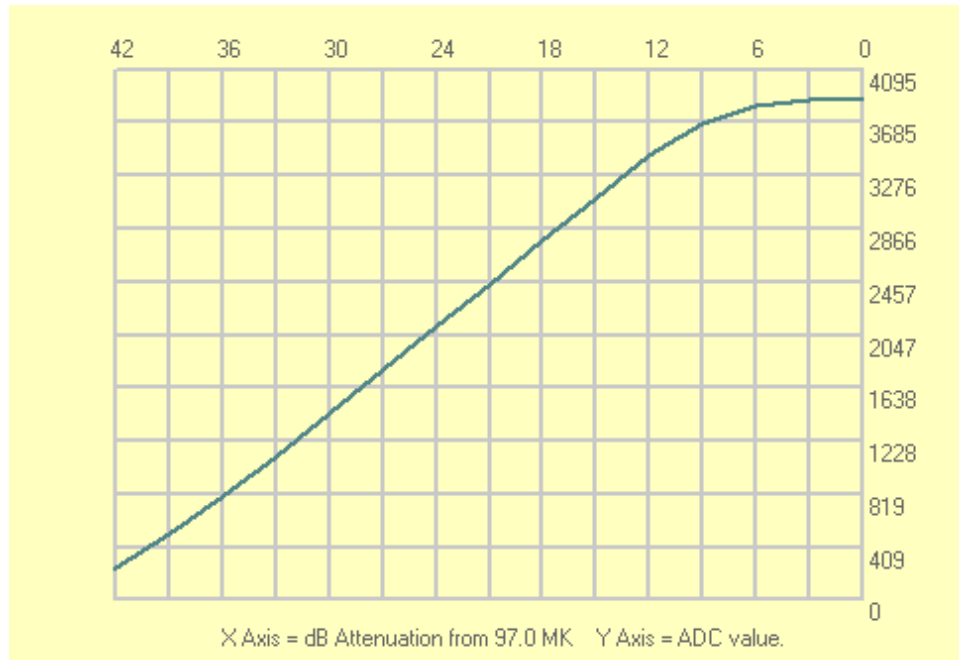

Figure 3. Dynamic range plot of a spectrograph receiver.
The plot in Figure 3 shows the response of an SDRPlay2 when the controls have been properly adjusted. The horizontal axis represents antenna temperature, (signal strength) increasing from left to right. The vertical axis represents the response of the spectrograph analog to digital converter with the maximum permissible count (4092 for the 12 bit ADC) at the top. As the temperature increases the ADC count increases linearly up to the point where the curve begins to flatten. The lower left point represents the level of the galactic background, while the curve flattening on the upper right represents saturation of the instrument. The linear dynamic range is on the order of $(42-9 = 33 \text{ dB})$ which means that the instrument is capable of operating from a few kilo kelvin up to about 10 mega kelvin.
9. If the response curve is very different from that seen in figures 3 and 4 adjust SDRplay2RSS controls and run another manual cal to achieve the desired response curve.